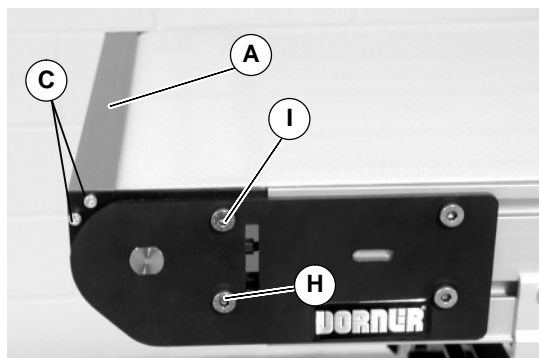

Figure 7
6. Place transfer plate support (A of Figure 7) on end of conveyor and attach with screws (C) tighten to 50 in-lbs (5.6 N-m).
7. Tighten screws (H and I of Figure 7) to 146 in-lbs (16.5 N-m).